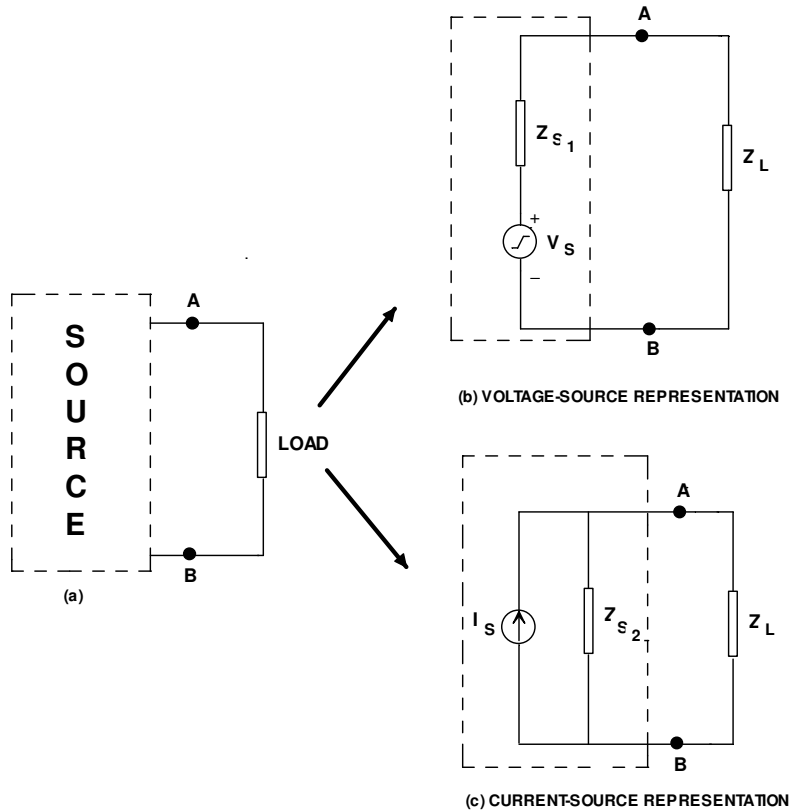

Fig .46(a, b, c)
**Q.46 Differentiate between a current source and a voltage source. Give their Graphical representation. How can they be converted from one to another ?      Marks (6)**
**Conversion of Voltage Source into Current Source and vice versa:** Consider an ac source connected to load impedance  $Z_L$  shown in below fig.46 (a). The source can either be treated as a voltage source or a current source as shown in fig.46(b) and fig.46(c). The voltage-source representation consists of an ideal voltage source  $V_s$  in series with source impedance  $Z_{S1}$ . The current-source representation consists of an ideal current source  $I_s$  in parallel with source impedance  $Z_{S2}$ . These are the two representations of the same source. Both types of representations must appear the same to the externally connected load impedance  $Z_L$ . They must give the same results. In fig.2 (b), if the load impedance  $Z_L$  is reduced to zero (i.e. the terminals A and B are short-circuited) the current through this short is given as
Both the representations (voltage-source and current-source) must give the same results. This means that current source in Fig.46(c) must also give the same current (as given by equation (i)) when terminals A and B are shorted. But the current obtained by shorting the terminals (A) and (B) of Fig.46(c) is simply the source current  $I_s$  (the source impedance  $Z_{S2}$  connected in parallel with a short-circuit). Therefore, the current  $I_s$  of the equivalent current source must be the same as that given by the equation (1) i.e.